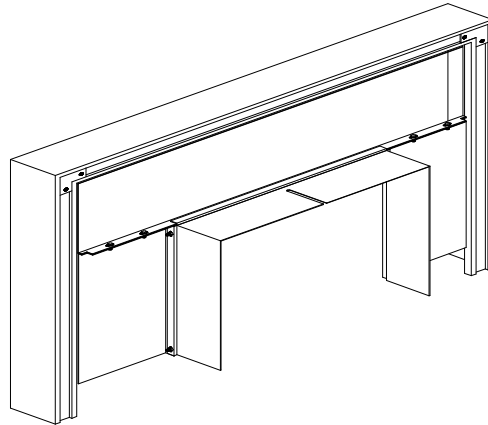

Figure 2.9b
- D. Line up the holes by pushing the sides out and install (smooth heads inside) all the bolts loosely. Line up the edge of the faceplate top and side, tighten the two bolts joining them, and then tighten the side bolts. Tighten the bolts on the other side in the same manner (see Figure 2.9b).